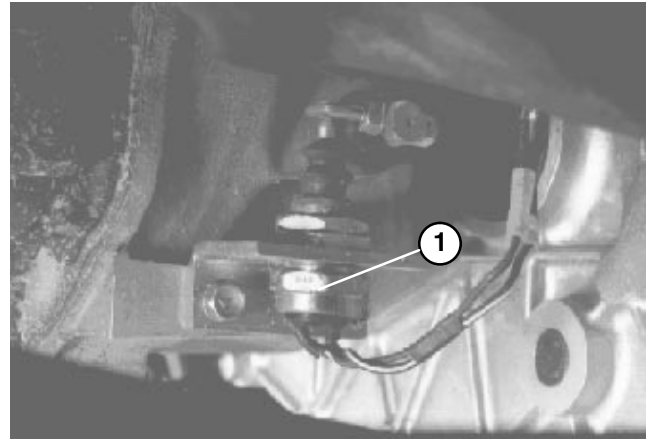

Figure 44
7. Recheck clutch safety switch adjustment (Fig. 44). Engine must not crank unless clutch pedal is $1.25" \pm .12"$ from floor. If an adjustment is required, loosen switch jam nuts and adjust up or down.